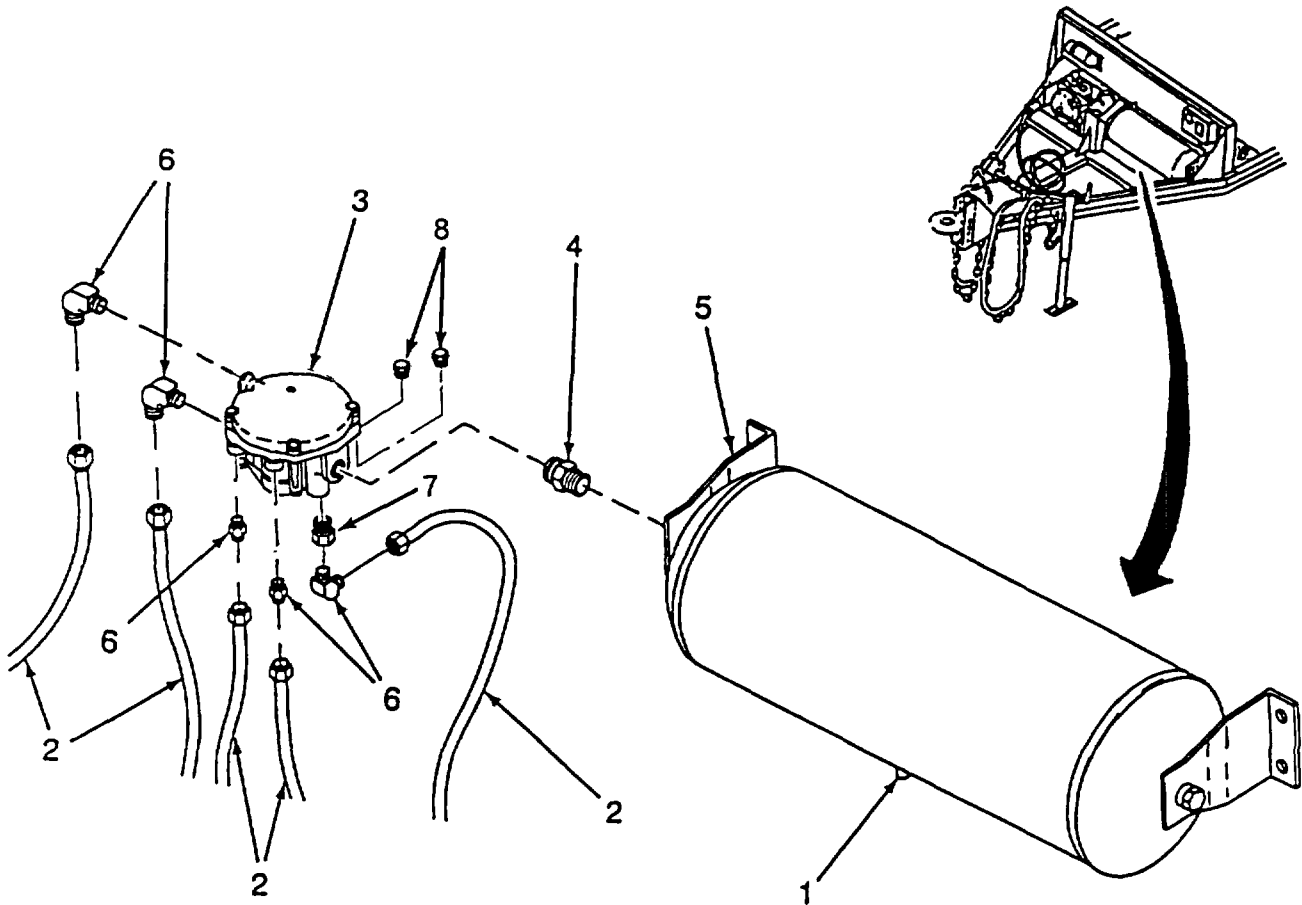

Figure 4-51. Emergency Relay Valve
a. Removal. (Refer to Figure 4-51).
- (1) Completely vent trailer air brake system pressure by opening drain valve (1). Then close drain valve (1).
- (2) Tag and identify five air brake lines (2)
- (3) Disconnect five air brake lines (2) from emergency relay valve (3) fittings
- (4) Unthread hex nipple (4) and emergency relay valve (3) from tank bracket (5)
- (5) Remove hex nipple (4) from emergency relay valve (3).
- (6) Remove five air brake fittings (6), bushing (7) and plugs (8) from emergency relay valve (3) (7) Clean and inspect emergency relay valve (3), fittings (6), bushing (7) and plugs (8) and air brake lines (2).